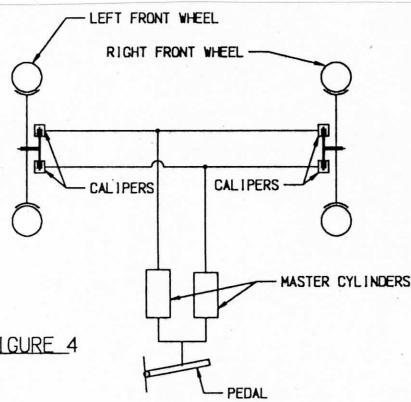
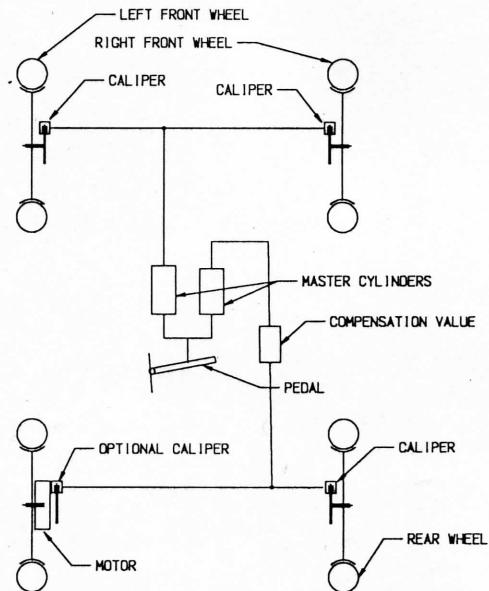
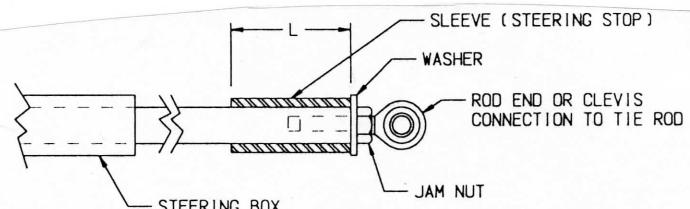

FIGURE 4
FIGURE 5
FIGURE 7
Figure 4 below shows an acceptable braking system for front wheel braking only. Figure 5 below shows an acceptable braking system for 4-wheel braking.
**7.2** The forces on the steering stops should be considered significant impact loads that could occur during emergency situations. The stationary half of the steering stop needs to be designed and mounted so that no binding will occur in the system when the moving part of the steering stop contacts with the stationary part. It is not recommended that the steering stops be on the upright. In the sketches below, two acceptable steering stops are shown. In Figure 5, the pin diameter should not exceed  $\frac{1}{4}$  of the rack diameter ( $d < 1/4D$ ). In Figure 7, the sleeve over the rack can usually fit under the bellows if the rack is covered, and can be made of a softer material like PVC to provide a 'softer contact', and 'L' is cut to length to provide the required travel.